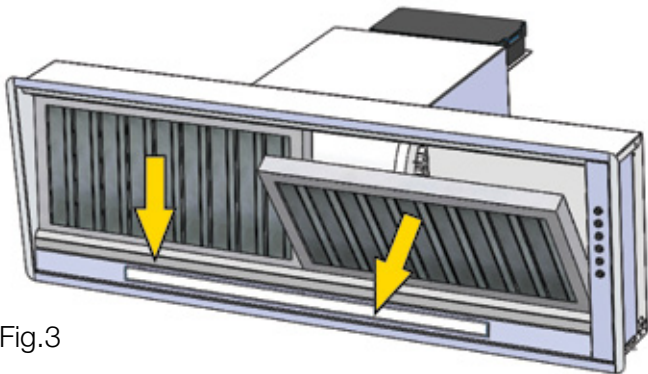

Fig.3
Before installing the appliance - in order not to damage the appliance itself - the metal grease filter should be removed. These filters could be removed by pushing the handles towards the back side of the rangehood and pulling it downwards to unfasten it from its slot. (Fig.3). When refitting the filters, please ensure the handles are at the front of the rangehood.
- Particular care is due to the grease filter panel. It can be removed by pushing its handle toward the back side of the rangehood and pulling the filter downwards so to unfasten it from its slot (Fig.3). To insert the filter just perform the opposite operation.